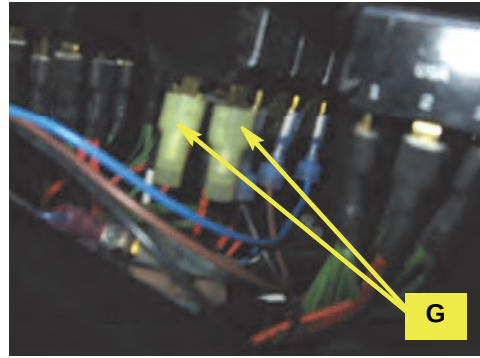

Figure 2g: Boom switch connectors insulated
- h. Using spade covers **G**, insulate the two blank terminals on each boom switch (Figure 2g).